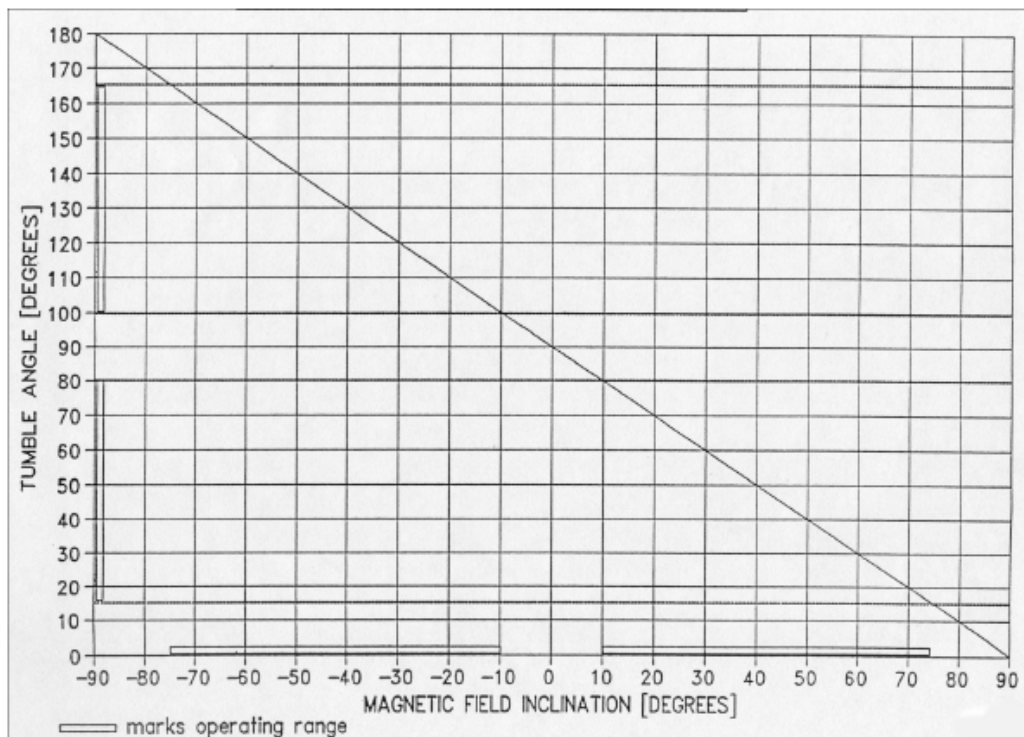

Figure 7 - Plot of tumble angle versus magnetic field inclination. Sensor inclination is 90° . Any sensor azimuth can be used.
The operating range of the magnetic field inclinations, for which the tumble angle is inside the active operating zone, is indicated by horizontal lines at the bottom of the graph. The sensor orientation shown in the Figure 7 is very useful because it covers most of the Earth's surface with the exception of polar and equatorial regions.
2. The orientation in Figure 7 with sensor inclination 90 degrees, for the regions between polar and equatorial regions. These orientations provide enough overlap at both ends: regions with field inclinations N/S from 53° to 75° and inclinations N/S from 10° to 22° could be surveyed by either sensor orientation setting 1) or 2).
1. the orientation in Figure 7, with sensor inclination 90 degrees, for the ambient field inclinations from 25° to 90°.